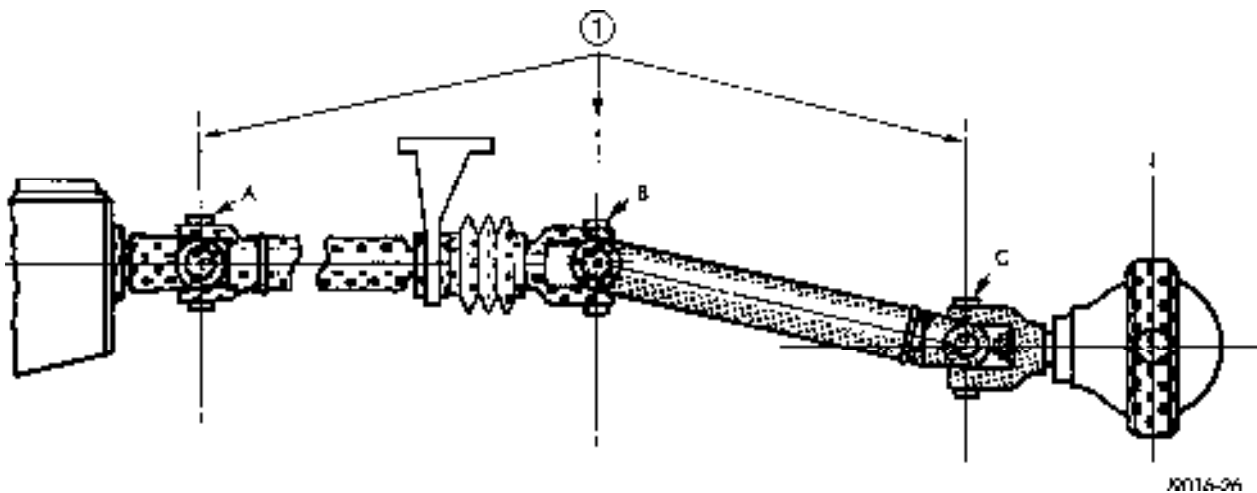

Fig. 4 UNIVERSAL JOINT ANGLE
9. To calculate the operating angle for the transmission output to front propeller shaft (A)(Fig. 4), subtract front propeller shaft angle from the transmission output shaft. To calculate the operating angle for the front to rear propeller shaft (B)(Fig. 4), subtract the front prop. rear propeller shaft angle from the front. To calculate the operating angle for the rear prop. shaft to pinion angle (C)(Fig. 4), subtract the pinion angle from the rear prop. shaft angle. The operating angles can be adjusted by moving the center carrier bearing up or down. The center bearing brackets, listed above, are available in a variety of heights. The working angles should be adjusted to provide the lowest angle possible for the output shaft to front propeller shaft, front propeller shaft to rear propeller shaft and rear propeller shaft to axle pinion. The angles must be below 3 degrees but must have a minimum angle of 1/2 degree to provide for universal joint lubrication. Determine which direction you need to move the center bearing to optimize the angles and install the appropriate bracket to obtain the minimum working angle, but still maintain at least 1/2 degree to assure that there will be some movement in the U-joint bearings(Fig. 4).